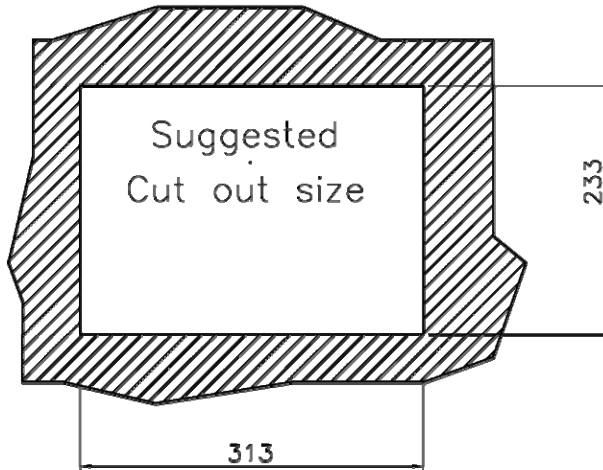

Figure 3-31: PPC-3712A-N26 Panel Cutout Dimensions
- Step 3:** Cut out a section from the panel that corresponds to the dimensions of the flat panel PC chassis. The panel section that is cut out must be smaller than the size of the aluminum frame that surrounds the 12.1" TFT LCD panel but just large enough for the chassis to fit through (**Figure 3-31**).